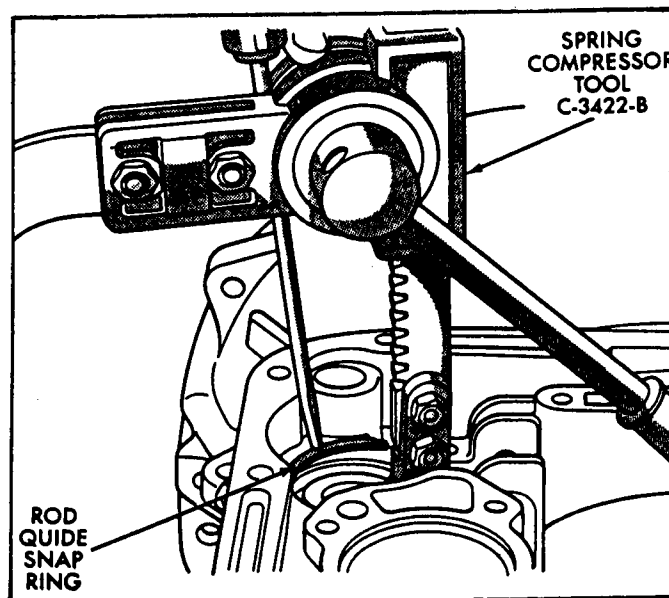

Figure 43
39. Install piston rod guide, compress the assembly with compressor tool, shown in Figure 43.
40. Install snap ring on top of piston rod guide, as shown in Figure 43.